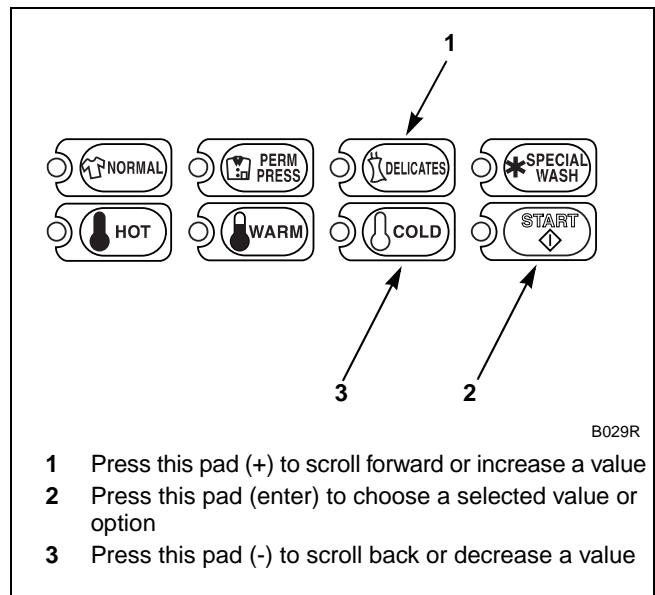

Figure 104
5. Press the DELICATES (+) or the COLD (-) keypad to increase or decrease the current number to the desired number selected from *Table 4* on the following page. Refer to *Figure 104*.